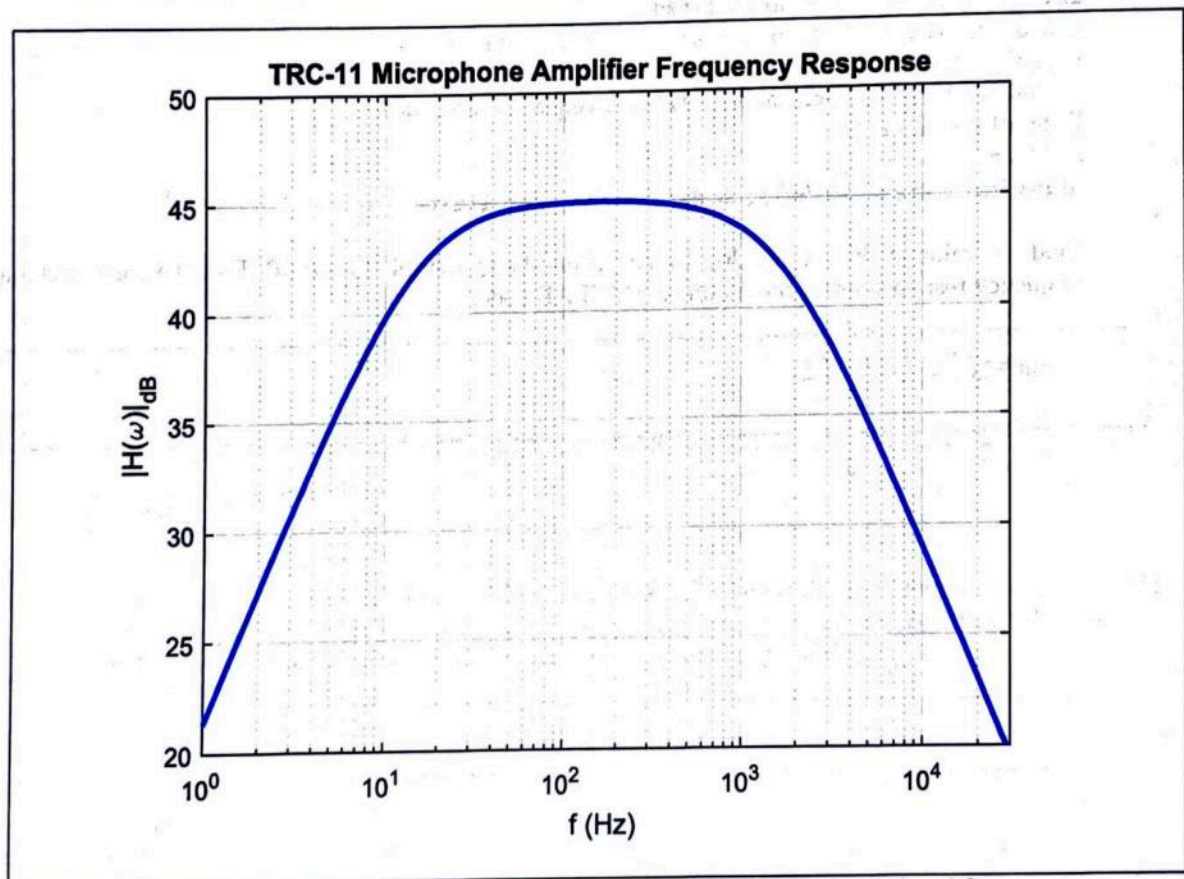

Figure 3: Calculated Frequency Response of the Microphone Amplifier
3. The gain function in decibels is plotted in Fig. 3. If $f_1 \ll f \ll f_2$, then $|v_o/v_{in}| = A_v = 20 \log_{10} A_v = A_{v,dB}$. If $f = f_1$ or $f = f_2$, then $|v_o/v_{in}| = A_v/\sqrt{2} = A_{v,dB} - 3\text{dB}$ (3 dB less than the low frequency value).
14. Find the values of the corner frequencies experimentally by finding the frequencies, f'_1 and f'_2 , where the gain is 3-dB less than (or $0.707 \times$) its mid-frequency gain value. Compare your results with the calculated values above and the curve shown in Fig. 3.